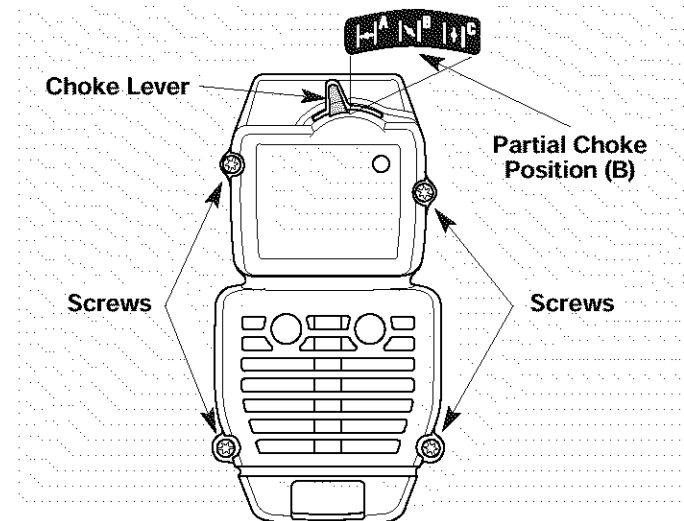

Fig. 22
- Remove the four (4) screws securing the air filter/muffler cover (Fig. 22). Use a flat blade or T-20 Torx bit screwdriver.
2. Insert the four (4) screws into the holes in the air filter/muffler cover (Fig. 22) and tighten.